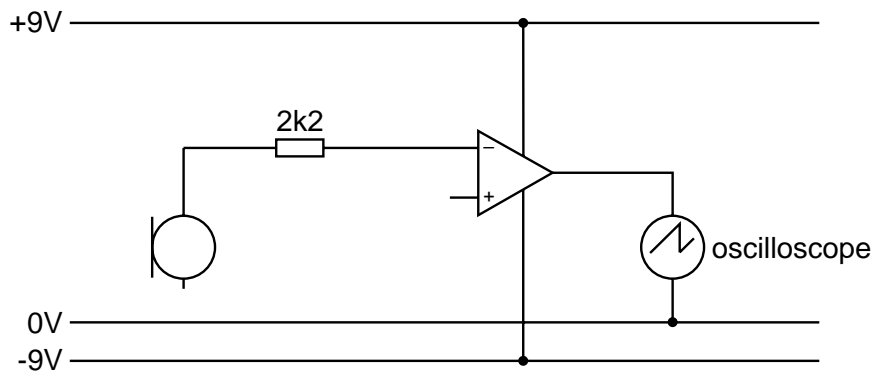

Fig. 8
- 5 Fig. 8 shows incomplete details of an operational amplifier connected as an inverting amplifier. It is used to amplify the small voltage generated by a microphone in a supermarket public address system.